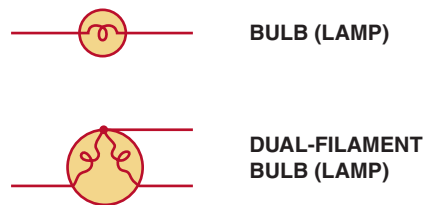

FIGURE 45-13 The symbol for light bulbs shows the filament inside a circle, which represents the glass ampoule of the bulb.
- **Bulbs.** Light bulbs often use a filament, which heats and then gives off light when electrical current flows. The symbol used for a light bulb is a circle with a filament inside. A dual-filament bulb, such as is used for taillights and brake light/turn signals, is shown with two filaments. ● **SEE FIGURE 45-13.**